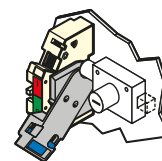

Fig. 1
- using RONIS EL11AP lock in direct right-side operation (Fig. 1),